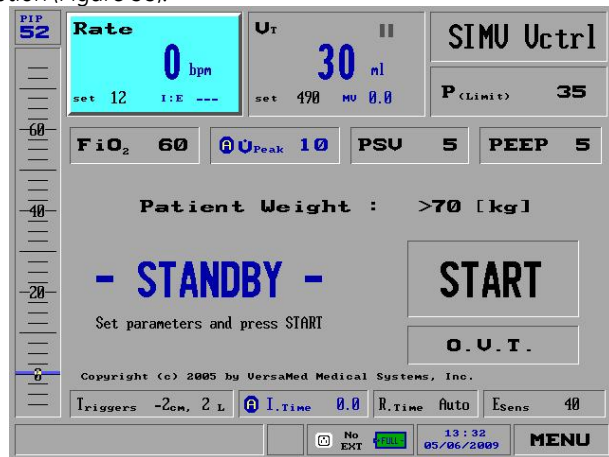

Figure 35: Respiratory Rate Selected
1. From the top most left side of the **Main** screen select the **Respiratory Rate** option (Figure 35).